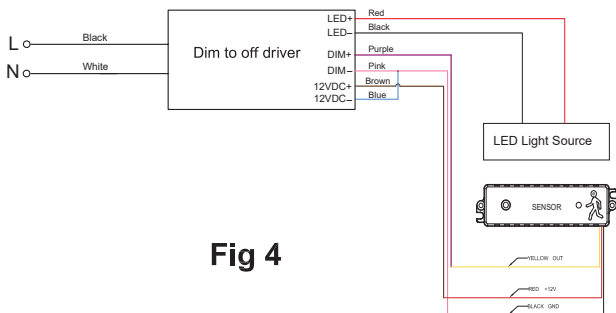

Fig 4
3. Sensor wiring as shown in Fig.4.